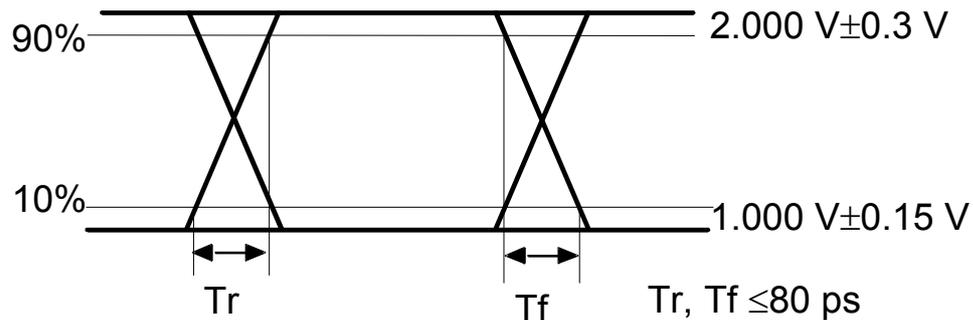

Fig. 8-11 Specifications of data output waveform (VAR part2)
5. To display waveform, connect all connectors according to Fig. 8-8. Confirm that the level of both waveform is in the range shown as Fig. 8-11 and rise/fall time is 80 ps or less.